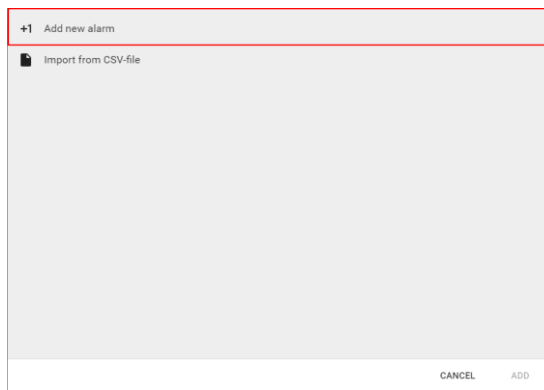

Figure 5.94 Create alarms as the basis of notifications.
- b. Click on “add new alarm” (Figure 5.94).